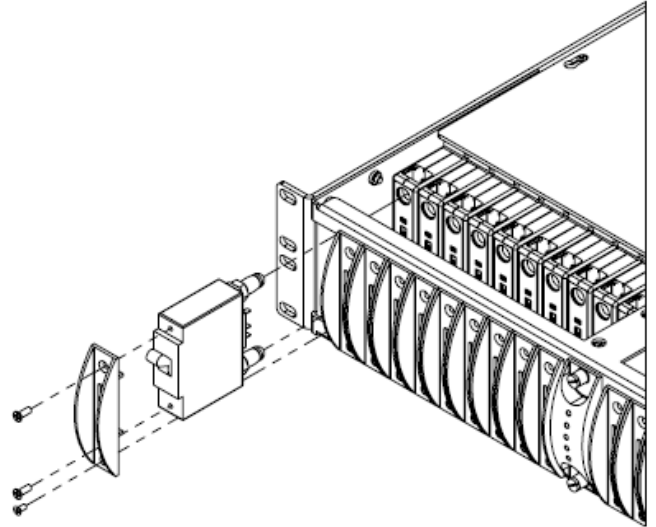

Fig. 1: Breaker mounting
3. Remove bottom screw holding circuit breaker cover to selected interrupter position. See Fig. 1.